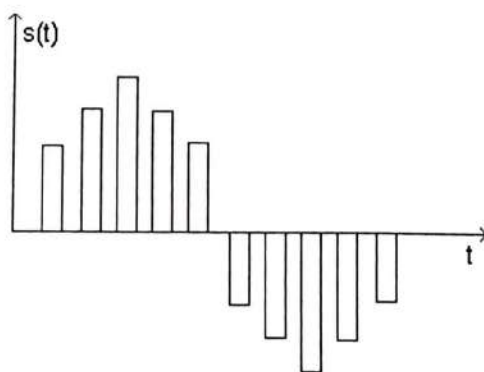

Fig: 1 Bipolar PAM signal
1. Connect the circuit as per circuit diagram as shown in the fig 1.